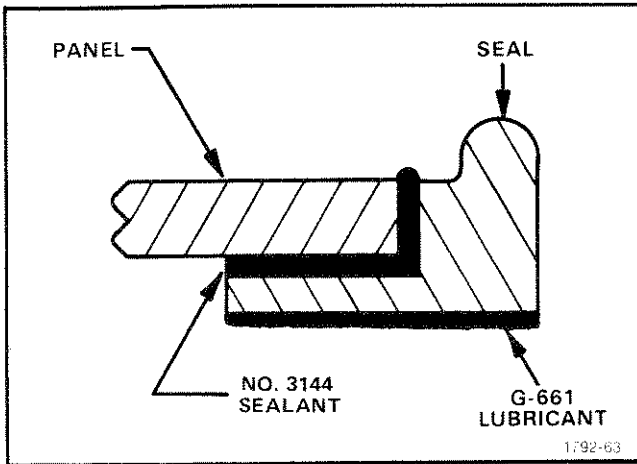

Fig. 5-9. Detail of Plug-In Compartment seal.
**9. Bonding of Plug-in Compartment seal to Front Panel (see Fig. 5-9)**